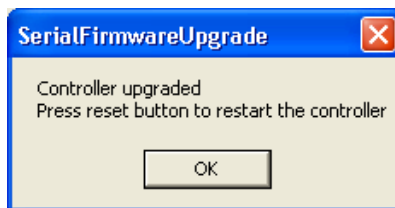

Figure 54. The Serial Firmware Upgrade window
- Select Firmware version¹ from the drop-down menu and click **Upgrade**. File transmission starts to the PLC. A confirmation window opens when the PLC is upgraded, see Figure 54.